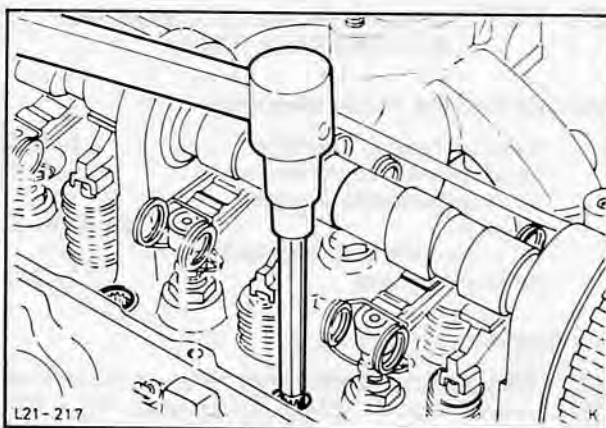

Fig. 139. Remove cylinder head using Special Tool 21-002
7. Remove spark plugs and detach cylinder head (10 bolts) using Special Tool 21-002, Fig. 139. When unscrewing cylinder head bolts reverse tightening sequence (see Fig. 141).